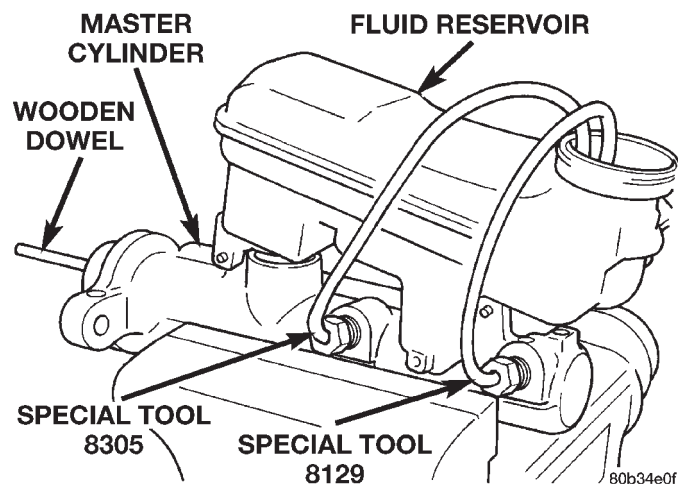

Fig. 22 Bleeding Master Cylinder
- (1) Clamp the master cylinder in a vise (Fig. 22).
- (2) Position the appropriate bleeding tools from packages, Special Tool 8129 and 8305, on the master cylinder. Place open ends in the fluid reservoir. Then, attach the bleeding tube fittings to the master cylinder outlet ports (Fig. 22).
- (3) Fill reservoir with brake fluid conforming to DOT 3 specifications such as Mopar or Equivalent.
- (4) Using a wooden dowel per (Fig. 22). Depress master cylinder pistons slowly, and then allow pistons to return to released position. Repeat several times until all air bubbles are expelled.
- (5) Remove bleeding tubes from cylinder, plug outlets and install filler cap.